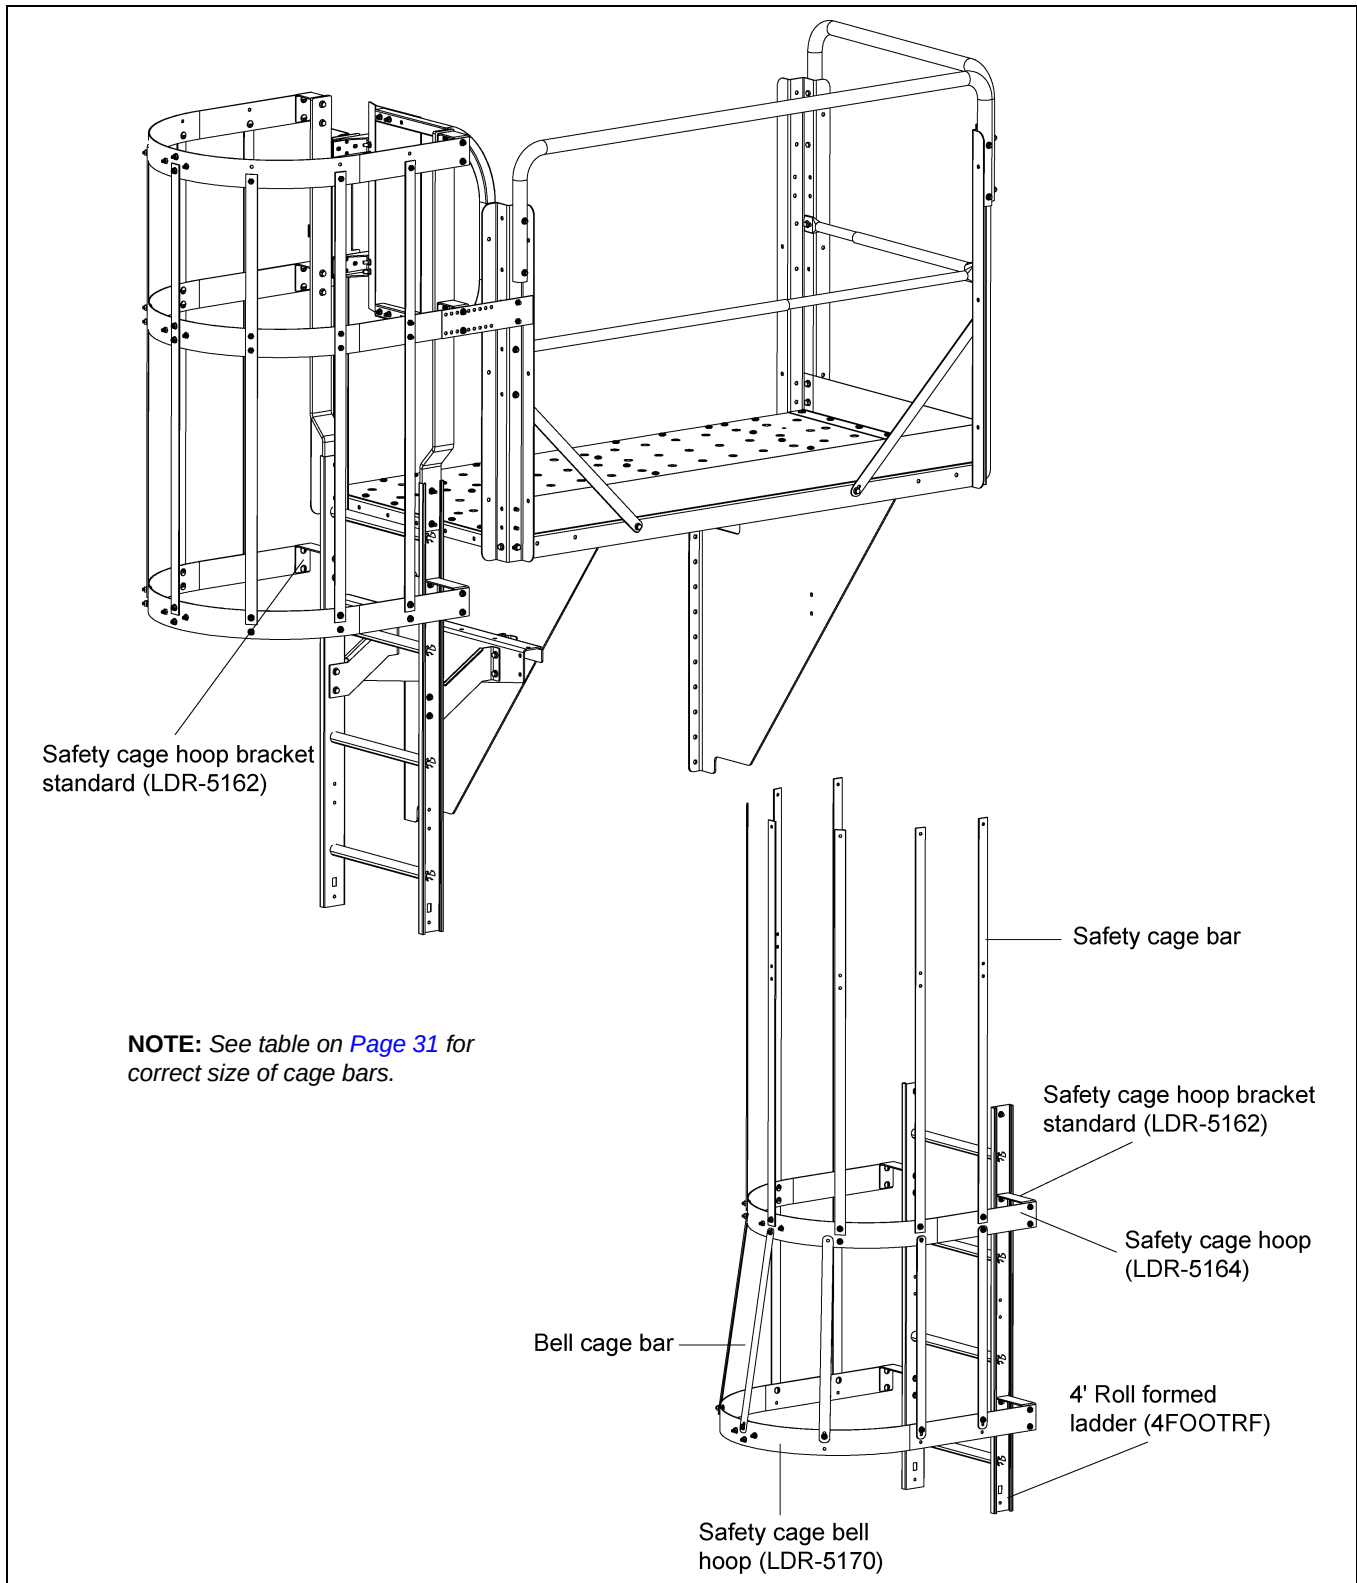

Figure 4Y
4. Assemble the safety cage rail spacer, standard safety cage hoops and cage bars to the ladder using 5/16" hardware. (See Figure 4Y.)
5. Assemble the safety cage rail spacer, bell safety cage hoops and cage bars to the ladder using 5/16" hardware. (See Figure 4Y.)